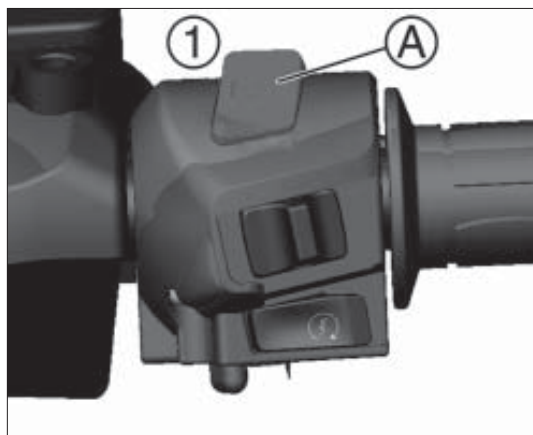

fig. 3
1. press the stop engine command A fig. 3 in position 1, leaving the ignition key in  position